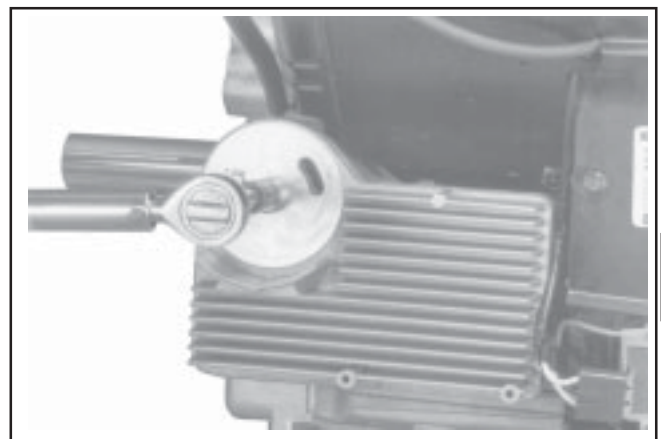

Figure 11-99. Torquing Oil Filter Nipple (Crankcase Mounted Cooler).
1. Reinstall the oil cooler on the engine (if equipped). Install a new gasket between the cooler and the closure plate. Torque nipple adapter to **27 N·m (20 ft. lb.)**. See Figures 11-99 and 11-100.